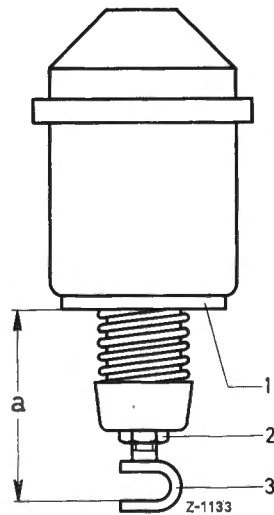

Fig. 00-15/2
When a cold start magnet is replaced, measure the dimension "a" and adjust the new magnet to this dimension (Fig. 00-15/2). The dimension "a" can only be measured and adjusted if the bar is moved as far as it will go, either electrically or by hand. To adjust the bracket, loosen the lock nut (2) and move the bracket (3) until the dimension "a" is obtained.